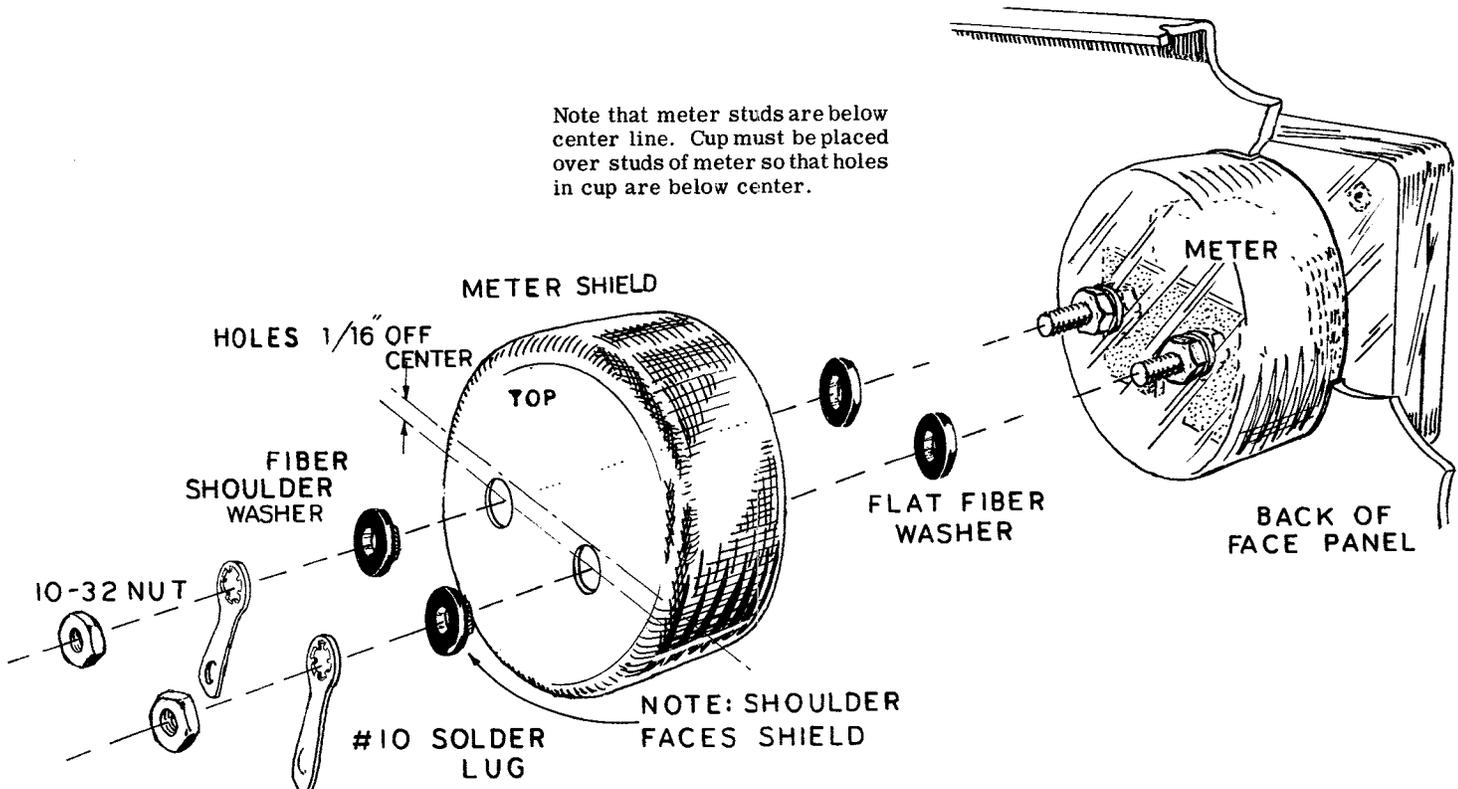

Figure 20
- () Mount the meter, using the flat insulated washers under the shield and the insulated shoulder washers on the outside of the shield. Be sure they seat properly before tightening. See exploded view in Figure 20. Use a #10 solder lug under the 10-32 nuts.
- () Trim the leads on a .002 μf disc capacitor to 1/2" long. Connect it across the meter to the two #10 solder lugs (NS).